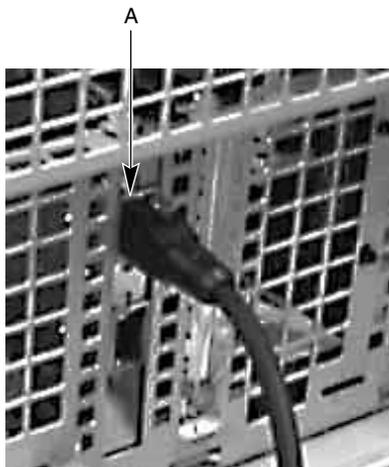

Figure 3-10 External Cable Attached to the Card
6. The ICMB kit contains an external cable. The cable attaches to the card's external connector. The external cable connection to the card is noted by "A" in Figure 3-10.